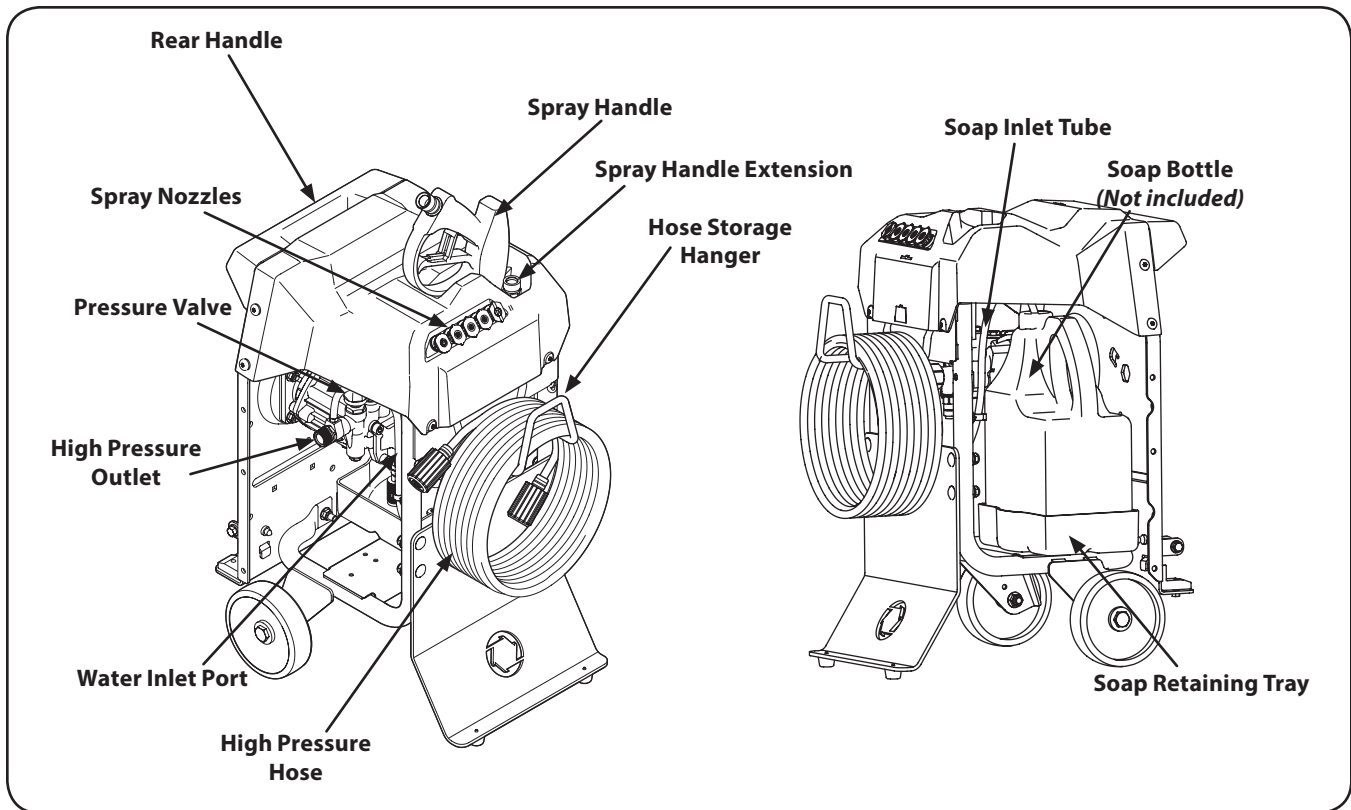

Figure 4-1
1. Place the nozzle extension into the hole on the front, top, left side of accessory tray as shown in Figure 4-1 of the Controls & Features Section of this manual. Clip the nozzle extension into place by moving it towards the front of the unit.
3. Insert the five (5) multi-colored spray nozzles into the color-coded spaces provided in the accessory tray.